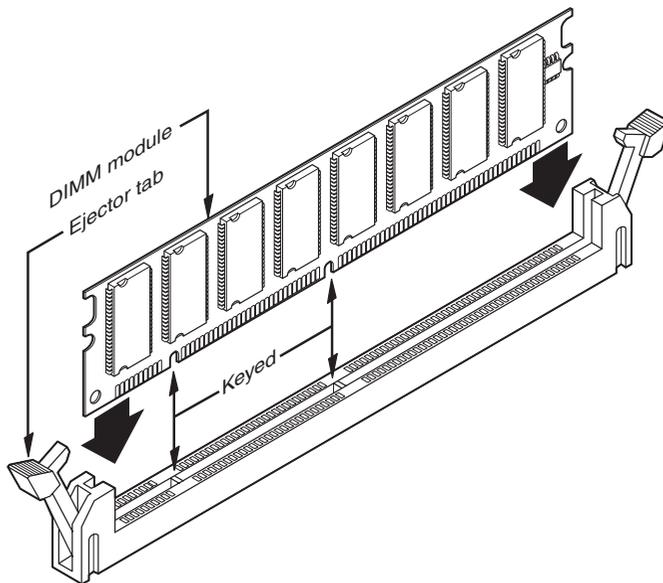

Figure 6.16 DIMM keys match the protrusions in the DIMM sockets. DDR DIMM and RIMM keys are similar but not exactly the same.
8. To insert a DIMM or RIMM module into a socket, ensure that the ejector tabs are flipped down on the socket you plan to use. DIMMs and RIMMs are keyed by notches along the bottom connector edges that are offset from the center so they can be inserted in only one direction, as shown in Figure 6.16.